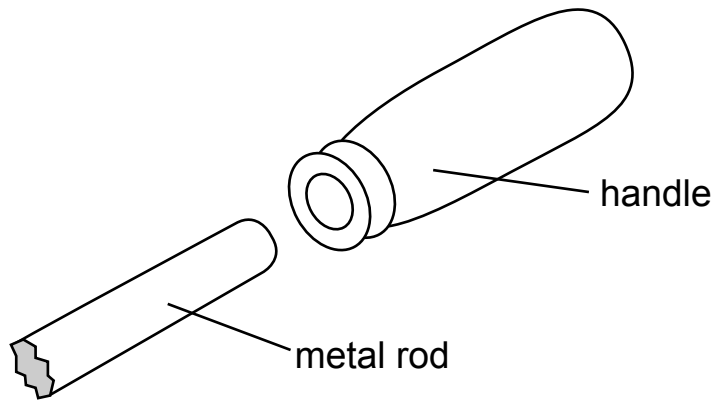

Fig. 17
- (g) Fig. 17 shows a metal rod that will be attached to a wooden handle by means of an epoxy resin adhesive.